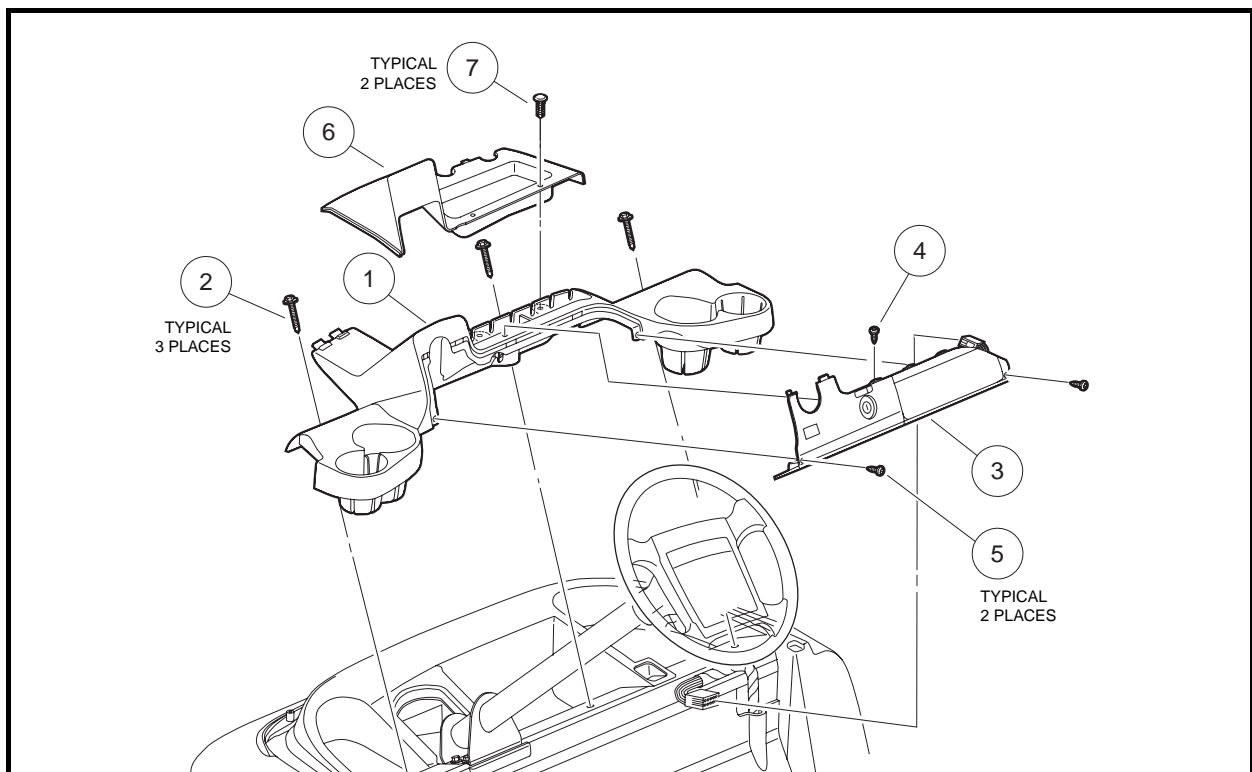

Figure 4-3 Instrument Panel
1. Remove two screws (5) at sides and one screw (4) on top of instrument panel (3) (**Figure 4-3, Page 4-5**).
2. Tilt instrument panel up to release it from the dash assembly (1).
3. Disconnect the electrical connector on the passenger side of the instrument panel (3) and remove the panel.
4. Remove two barrel fasteners (7) to release dash tray (6).
5. Remove three screws (2) and remove dash assembly (1) from vehicle.
1. Position dash assembly (1) on vehicle. Make sure tabs on the forward edge engage to front underbody. Secure assembly in place with three screws (2) (**Figure 4-3, Page 4-5**). Tighten screws to 8.8 ft-lb (12 N·m).
2. Position dash tray (6) in dash and secure with two barrel fasteners (7).